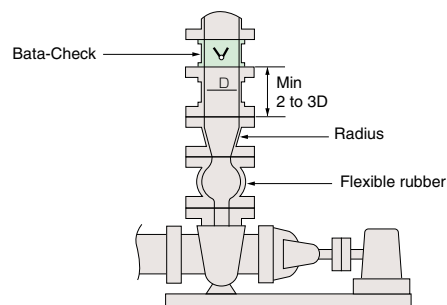

Fig.5
- When mounting a reducer in front of a Bata-Check valve, have a space of 5 times the valve diameter (5D) or more, or at least 2 to 3D between the valve and reducer. (Fig. 5)